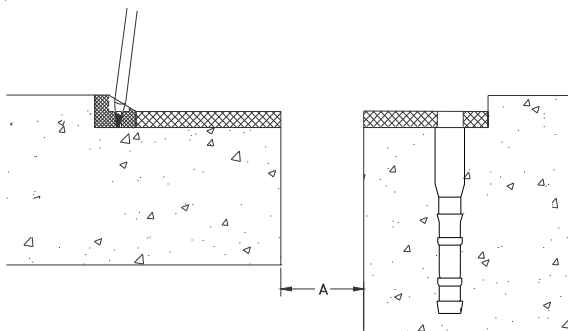

Figure 17
STEP 32. Select a section of the nosing. Place the nosing into its installed position, abutting the nosing to the outside edge of the pad. Ensure that the nosing is straight, level, and properly aligned. Using the nosing as a template, mark the location of the anchors on the concrete (see Figure 17). Ensure that the nosing remains straight, level, and properly aligned. Remove the nosing from the blockout, and drill the anchor holes into the concrete at the marked locations.